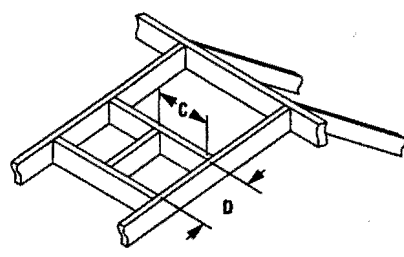

**Figure 20**
**A. Plan the vent run -** Analyze the vent routing and determine the types and quantities of sections required 4 1/2" (114 mm), 10 1/2" (267 mm), 22 1/2" (572 mm), 34 1/2" (876 mm) and 46 1/2" (1181 mm) net section lengths are available. Plan the vent lengths so that a joint does not occur at the intersection of ceiling or roof joists. Make allowances for elbows as indicated in Figure 20 on page 11.
**H. Change vent direction -** At transition from or to a horizontal/inclined run, install the SV4.5E45 and SV4.5E90 elbows in the same manner as the straight vent sections. The elbows feature a twist section to allow them to be routed about the center axis of their initial collar section to align with the required direction of the next vent run element. Twist elbow sections in a clockwise direction only so as to avoid the possibility of unlocking any of the previously connected vent sections. See Figure 20 on page 11.
**F. Change vent direction to horizontal/inclined run** - At transition from or to a horizontal/inclined run, install the SV4.5E45 and SV4.5E90 elbows in the same manner as the straight vent sections. The elbows feature a twist section to allow them to be routed about the center axis of their initial collar section to align with the required direction of the next vent run element. Twist elbow sections in a clockwise direction only so as to avoid the possibility of unlocking any of the previously connected vent sections. See *Figure 20*.
Analyze the vent routing and determine the quantities of vent sections and number of elbows required. Refer to **Vertical Vent Figures and Tables** on page 13 and 14 to select the type of vertical installation desired. Vent sections are available in net lengths of 4 1/2" (114 mm), 10 1/2" (267 mm), 22 1/2" (572 mm), 34 1/2" (876 mm) and 46 1/2" (1181 mm). Refer to the **Vent Section Length Chart** on page 10 for an aid in selecting length combinations. Elbows are available in 90° and 45° configurations. Refer to **Figure 20** for the SV4.5E45 and SV4.5E90 elbow dimensional specifications. Where required, a telescopic vent section (SV4.5LA) may be used to provide the installer with an option in installing in tight and confined spaces or where the vent run made up of fixed length pieces develops a joint in an undesirable location, or will not build up to the required length. The SV4.5LA Telescopic Vent Section has an effective length of from 1 1/2" (38 mm) to 7 1/2" (191 mm). The SV4.5LA is fitted with a locking inclined channel end (identical to a normal vent section component) and a plain end with 3 pilot holes. Slip the plain end over the locking channel end of a standard SV4.5 vent component the required distance and secure with three screws.